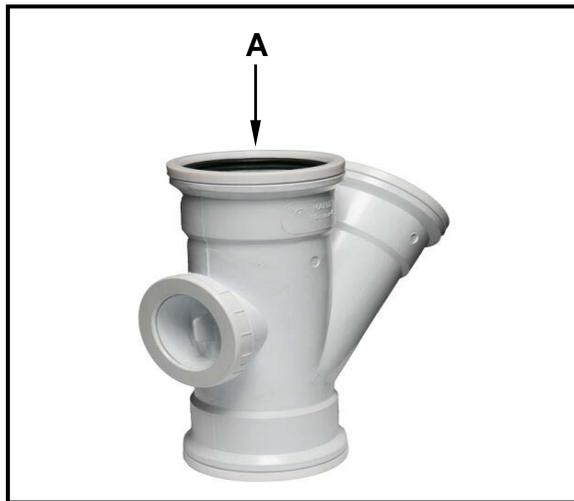

FIGURE 4.2
4.2 FIGURE 4.2 below is a picture of a pipe fitting.